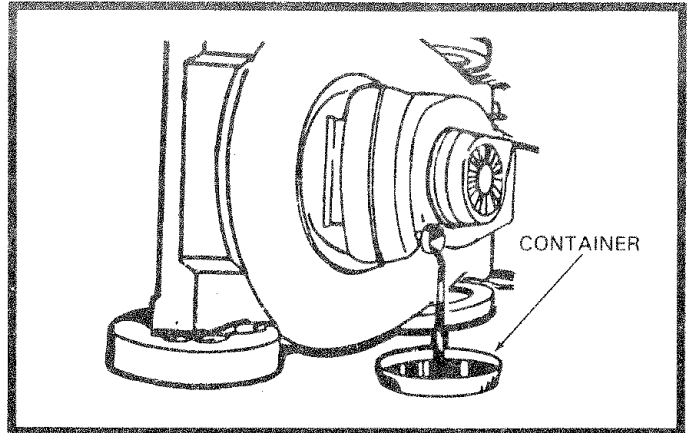

FIG. 12
- Tip lawn mower on its side as shown in Fig. 12 and drain oil into suitable container. Rock lawn mower back and forth to remove any oil trapped inside of engine.